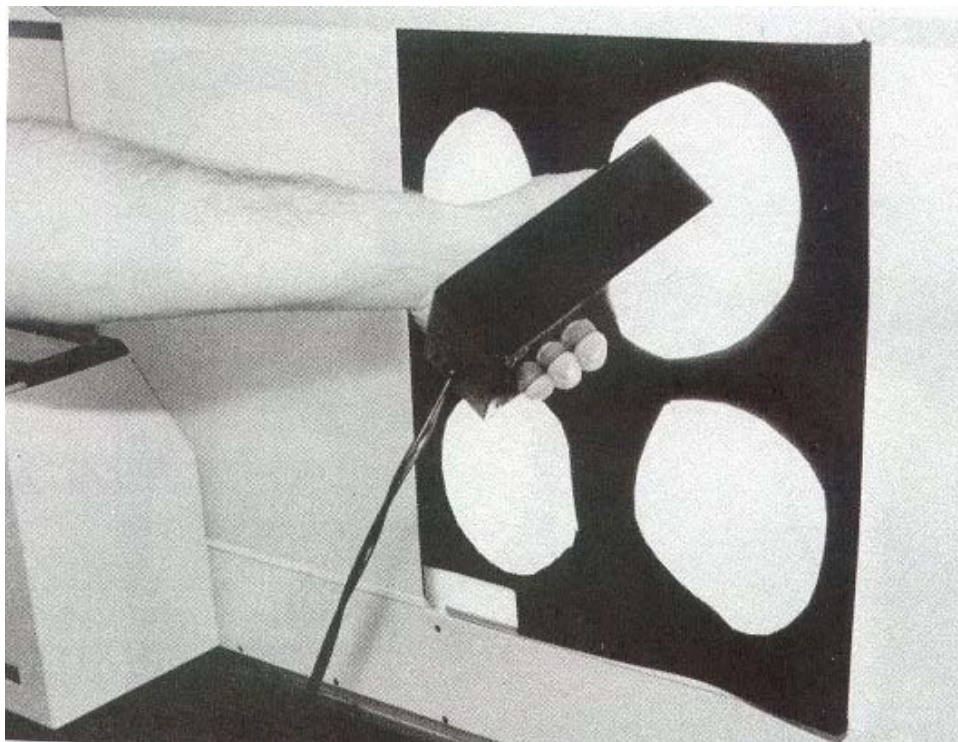

Figure 8-2. Second quadrant.
- l. Repeat steps a through k for all the other viewboxes (see figures 8-2 through 8-4).